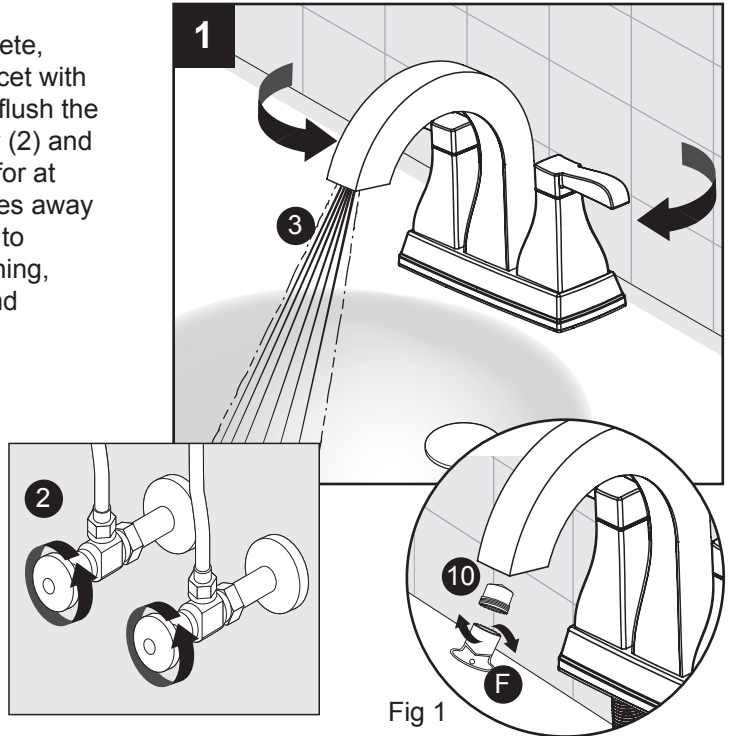

Fig 1
2. Ensure the gasket (B) is on the bottom of the new faucet (A). Place the faucet (A) through the mounting holes in the sink. Secure the faucet assembly (A) to the sink with the washers (C) and install nuts (D) provided. Screw the washers (C) and install nuts (D) to sink and hand-turn to tighten, as shown in the Fig 1.
Important: After installation is complete, remove the aerator (10) from the faucet with the included aerator tool (F) Fig 1 to flush the water lines. Turn on the water supply (2) and allow both hot and cold water to run for at least one minute each (3). This flushes away any debris that could cause damage to internal parts. While the water is running, check for leaks. Turn off the water and replace the aerator.